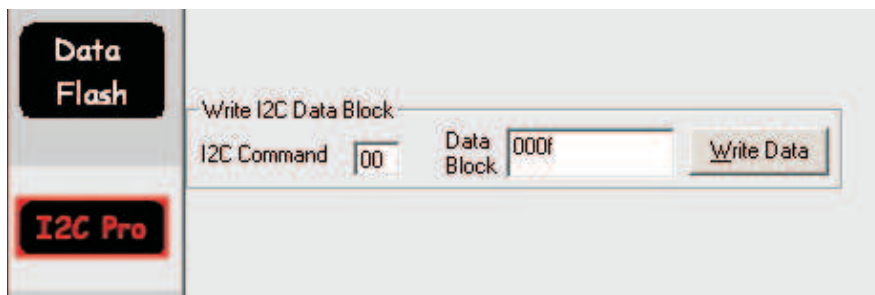

Figure 69. Command to Set the Device in ROM Mode for Firmware Programming
5. Put the device into ROM mode by setting the **Write I2C Data Block** section as: *I2C Command: 00* *Data Block (hex): 000f*, and click the **Write Data** button (see Figure 69).